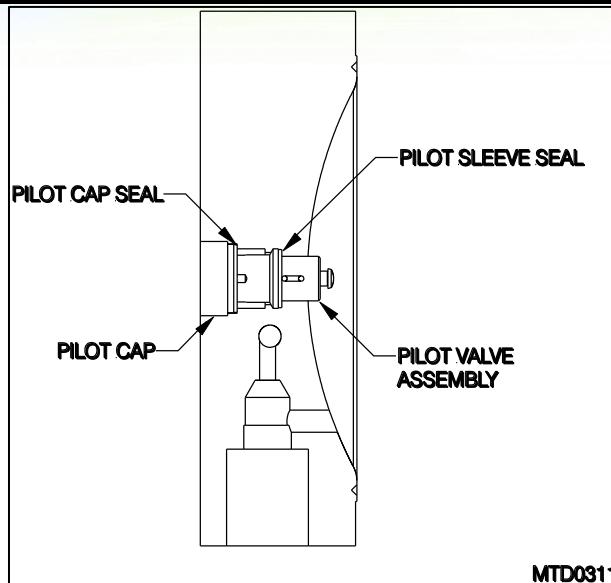

Figure 4-3
- Thread the pilot valve assembly into the pilot bore of the head as shown in Figure 4-3. Tighten to 25 in-lbs. Do not over tighten.